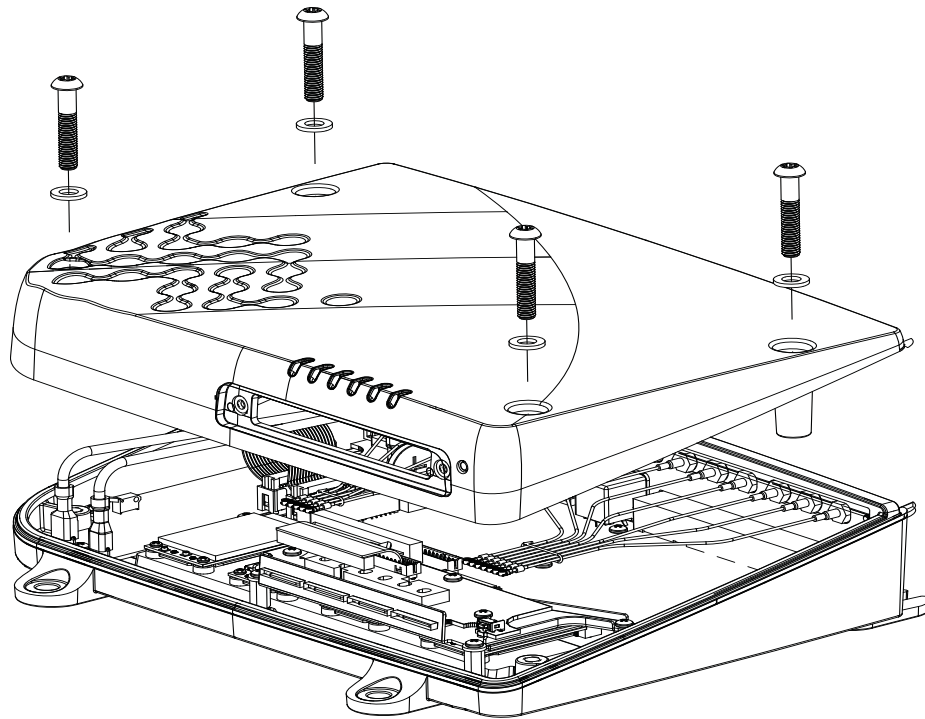

Figure 7: Reattaching the top enclosure
9. Reattach the top enclosure as shown in Figure 7, taking care that the gasket on the bottom chassis is not pinched or misaligned.